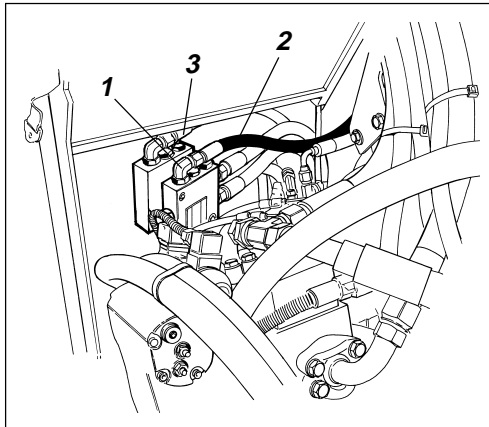
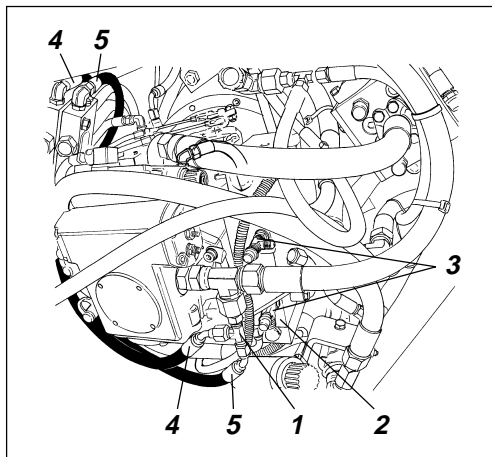

Fig. 9 Flushing block
Fig. 13 *Vibrator pump*
- Fit T-adapter (**334234**), wrench 19, on connection to vibrator pump. Connect and tighten both hoses (pos. 2 and 3 in fig. 9, also pos. 4 and 5 in fig. 13), wrench 18, coming from the outer flushing block.